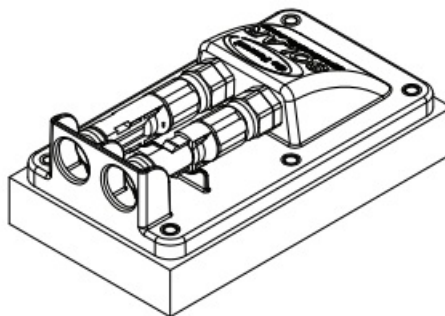

FIGURE 4-D
4. Assemble 4 mounting feet onto each of the solar panels frame using the 1/4" bolts and nuts. This assembly is easily completed on the ground before the panels are brought up to the RV roof. (See Figure 4-A